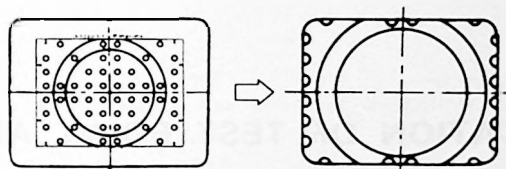

Fig. 4-5-3
- Aim the camera at the ball chart, and line up the reference arrow head with edge of the raster (blanking) on the viewfinder. (Fig. 4-5-3)
- Adjust H. SIZE L805 to a point where the ball chart's edges just disappear on the viewfinder. (Fig. 4-5-3) Confirm that the picture increase by same amount on both sides.